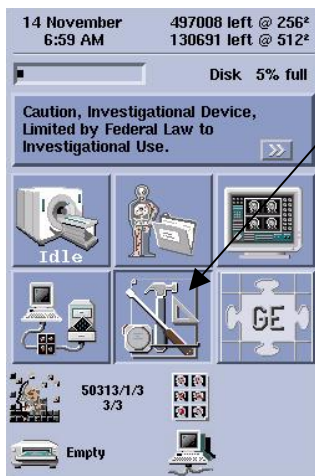

Figure 12
24. Access the Common Service Desktop by clicking on the Tools icon shown in Figure 12.